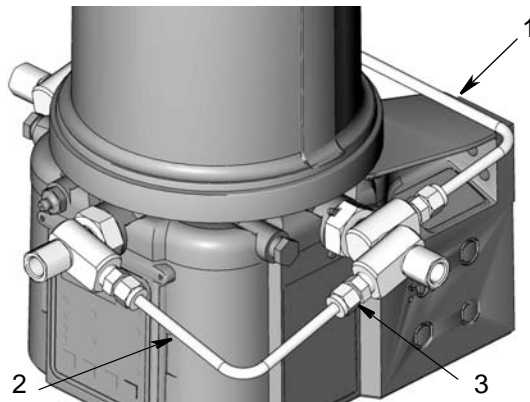

FIG. 14
11. Install tube (1) (with 2 bends) around back side of the G3 pump between the dual banjo fitting installed on the right side of the G3 pump and the banjo fitting installed on the left side of the G3 pump (viewed from the front) as shown in FIG. 14.
12. Install tube (2) (1 bend) between dual banjo fitting installed on the right side of the G3 pump and banjo fitting installed on the front of the G3 pump (viewed from the front) as shown in FIG. 14. It may be necessary to loosen banjo fitting to install this tube.
13. Hand tighten tube nuts (3), securely. Then tighten another 1-1/4 turns (FIG. 14).